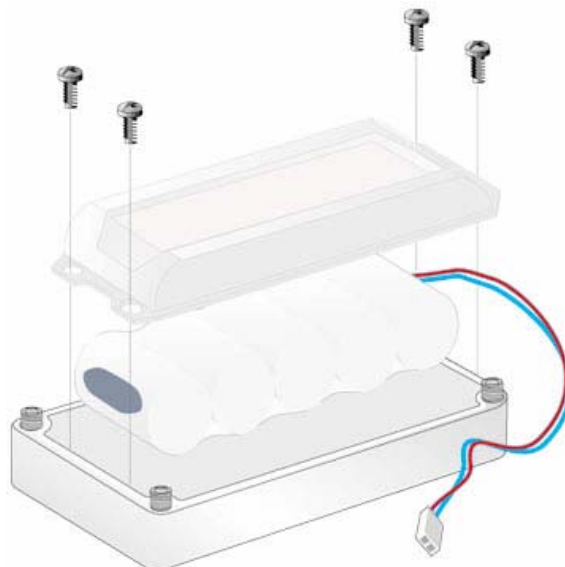

Fig. 8: A733 Battery Pack
3. Unscrew the four screws of the plastic cover that holds the battery pack in place, then remove the cover. Fig. 8 shows the A733 battery pack inside the RTU.